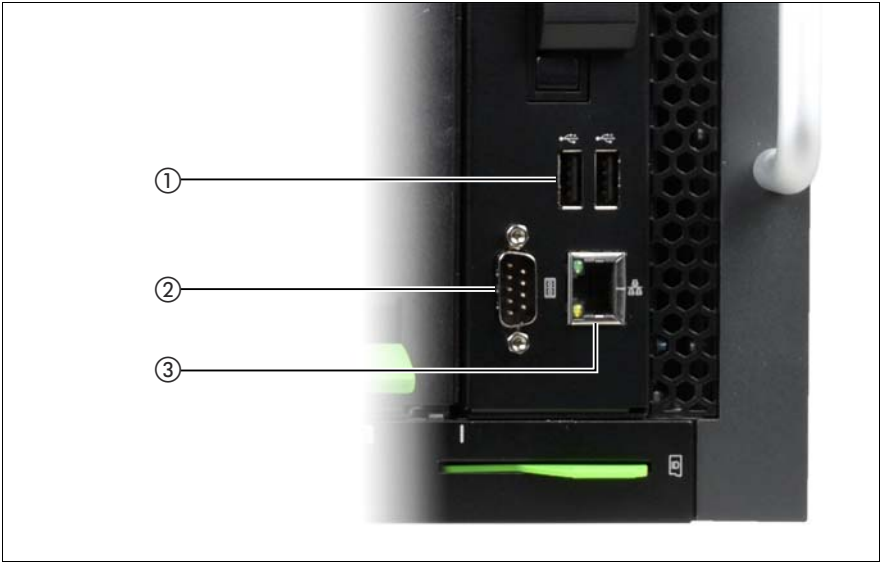

Figure 9: Connectors for external devices on the Front-Side I/O Module (FSIOM)
**i** The service LAN port (pos. 1 in figure 8), the management LAN ports for blade server management (pos. 4 and 5 in figure 8) and the management LAN port of the FSIOM (pos. 3 in figure 9) must be in different LAN subnetworks.